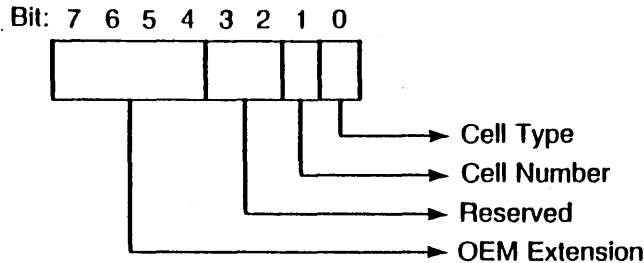

Figure 3-3. Extension Plane Byte Format
- **Extension Plane (plane 2):** An OEM-implemented option that provides support for 2-byte characters. Each extension-plane byte is formatted as shown in Figure 3-3.